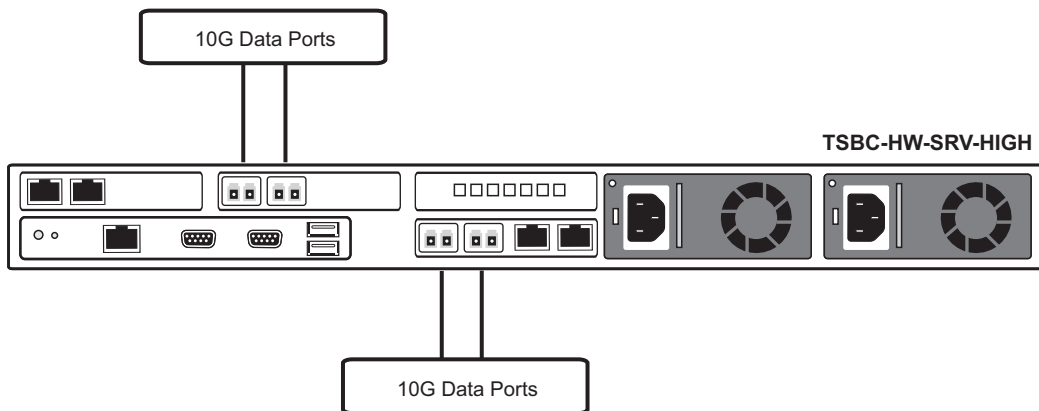

Figure 3.4 TSBC-HW-SRV-HIGH: Connecting to the Data Network
- To connect the TSBC-HW-SRV-HIGH to the data network, refer to figure 3.4 on page 19.